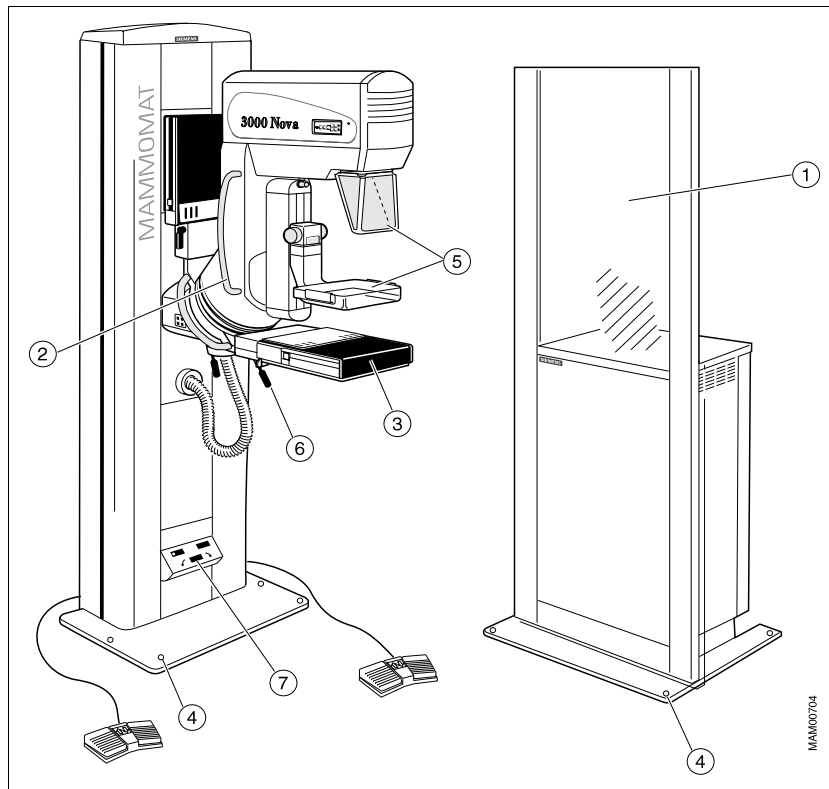

Fig. 1: MAMMOMAT checks
- Check the radiation protection shield for possible damage (1/Fig. 1 / p. 13).
- Check the swivel arm/PPS tube attachment by pulling on both support rails (a minimum play of approximately  $\pm 2^\circ$  is correct). (2/Fig. 1 / p. 13).
- Check the mounting of the basic table as well as the locking mechanism for the exposure system (3/Fig. 1 / p. 13).
- Check the "Flying Wing" locking mechanism (wing  $\triangle$  basic table). Swivel "wing 1" ("wing 1" is the table with the stereo connector) toward "wing 2" and back (6/Fig. 1 / p. 13).
- Verify that the system is level with respect to the floor. Check the level screws (4/Fig. 1 / p. 13) with a water level and, if available, the floor mounting (optional).